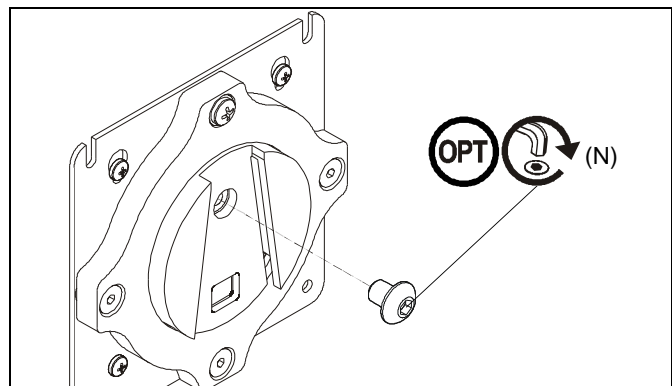

Figure 11
NOTE: (Optional) Rotational adjustment may be locked by installing rotational locking screw (N) into back of faceplate. (See Figure 11)